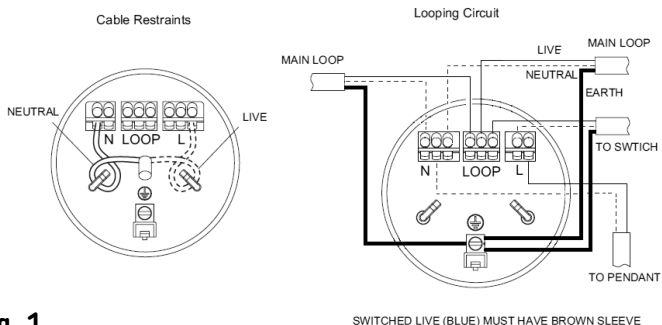
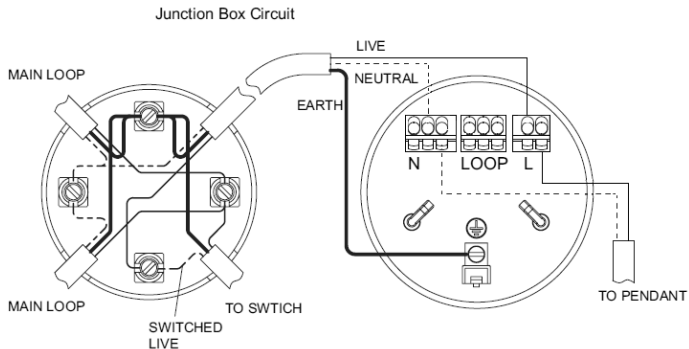

Fig. 1
Fig. 2
- Ensuring correct polarity is observed, carefully wire as shown in Fig. 1 and Fig. 2. The earth terminal is non-functional and only provided for convenience. Check all connections are tight with no loose strands outside the terminals